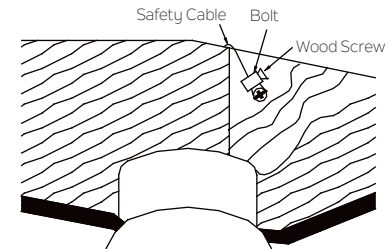

Fig. 7
Step 2. Insert the safety cable through the mounting bracket and one of the holes in the outlet box into the ceiling. Adjust the length of the safety cable to reach the screw and washers by pulling the extra cable through the cable clamp until the overall length is correct, put the end of the cable back through the cable clamp, forming a loop at the end of the cable. Tighten the cable clamp securely. Now, put the loop in the end of the safety cable over the wood screw and under the washer. Tighten the wood screw securely. (Fig.7)